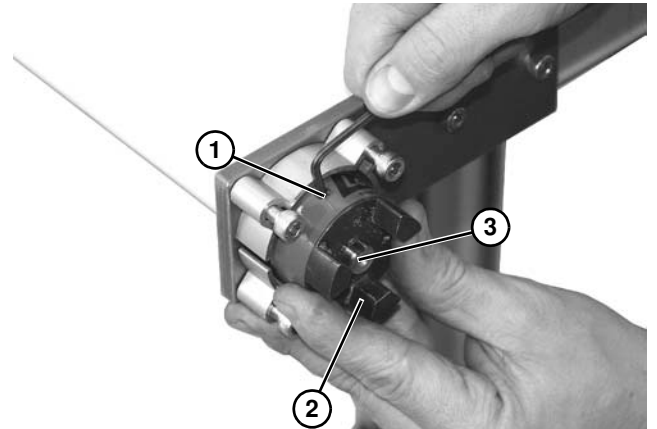

Figure 17
- Loosen set screw (**Figure 17, item 1**), and remove 3 jaw coupling (**Figure 17, item 2**) from shaft (**Figure 17, item 3**).